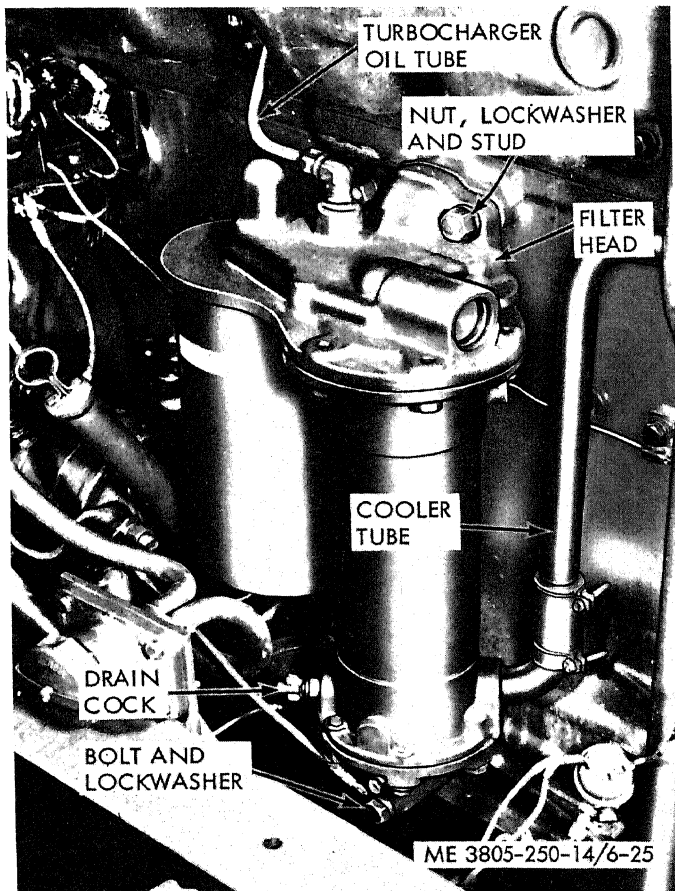

Figure 6-25. Oil cooler and oil filter assembly, removal and installation.
a. *Removal.* Refer to figure 6-25.
(1) Open the engine side panel.
(2) Open the drain cock on the oil cooler. Drain the oil pan.
(3) Disconnect the turbocharger oil tube from the filter head.